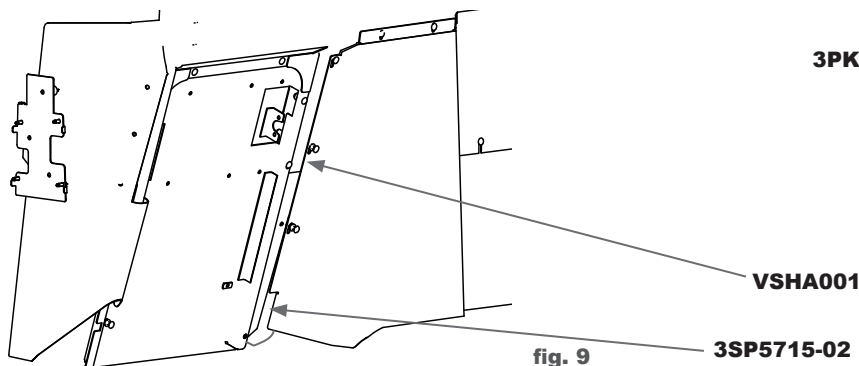

fig. 9
- G. Place the Viper Shield Housing in the partition cutout location. Align the holes in the panel with the partition and 3SP5715-02 panel. Align the housing making sure all holes are aligned, and get the bolts started. Then, align the seat protector starting those bolts as well. Leave all bolts hand tight until all panels are installed, then tighten securely. (See Fig. 9)